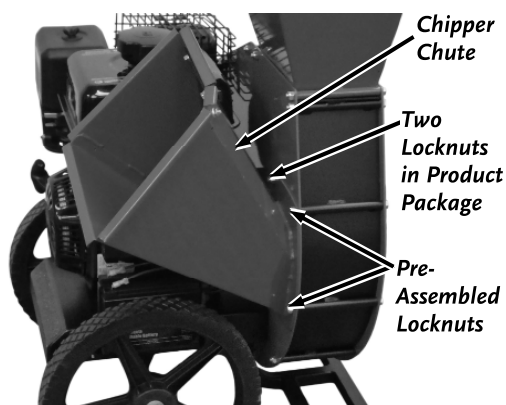

Figure 4b
1. Remove the Pre-assembled Locknuts from the Bolts using two 1/2" Wrenches (**Figure 4b**). Leave the Bolts in place.